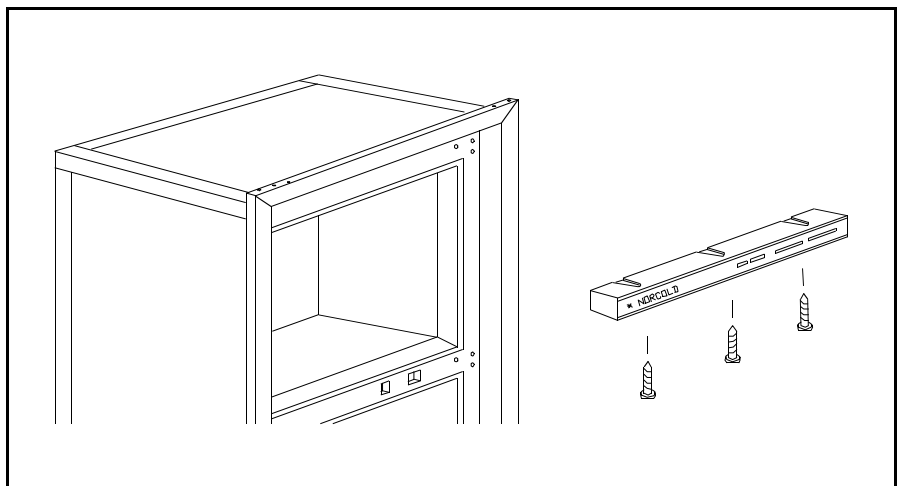

Figure 5.47 Eyebrow Removal
13. Remove the screws shown in Figure 5.47 and pull the Eyebrow assembly away from the refrigerator.